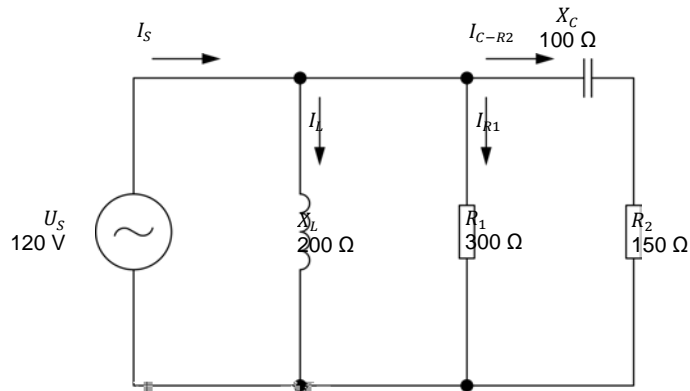

Figure 4-12. AC circuit containing two resistors, an inductor, and a capacitor.
4. Calculate the active power P_{R_2} dissipated in the second resistor (R_2) in the circuit of Figure 4-12.
5. Calculate the apparent power S_{C-R_2} in the capacitor and the second resistor (R_2) in the circuit of Figure 4-12.
6. Calculate the active power P_{R_1} dissipated in the first resistor (R_1) in the circuit of Figure 4-12.
7. Calculate the total reactive power Q in the circuit of Figure 4-12.
8. Calculate the apparent power S in the circuit of Figure 4-12.
9. Calculate the source current I_S in the circuit of Figure 4-12.
10. Calculate the power factor PF of the circuit shown in Figure 4-12.